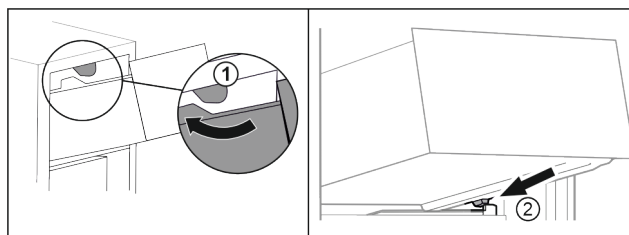

Fig. 65
- ▶ Guide drawer around the upper stoppers. Fig. 65 (1)
- ▶ Place drawer at an angle behind the lower stoppers onto moulded rib. Fig. 65 (2)